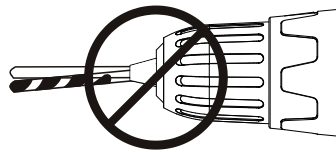

Fig. 11
**WARNING:** Do not insert the drill bit into the chuck and tighten as shown in Fig. 11. The drill bit MUST be properly inserted with all three of the chuck jaws holding the bit centered in the chuck. Failure to properly insert the drill bit could cause the drill bit to be thrown from the chuck, resulting in possible serious injury or damage to the chuck.